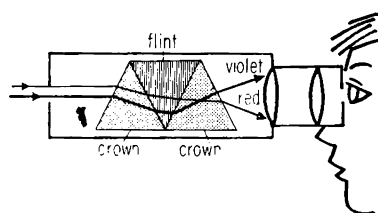

Fig. 459
4. Perhaps the simplest, although not the cheapest, way to study spectra effectively is to use a direct vision spectroscope²⁰. One form consists of a slit, a lens and a three-piece prism made from one flint glass and two crown glass prisms cemented together (Fig. 459). Such spectroscopes are particularly suitable for qualitative studies of emission and absorption spectra.